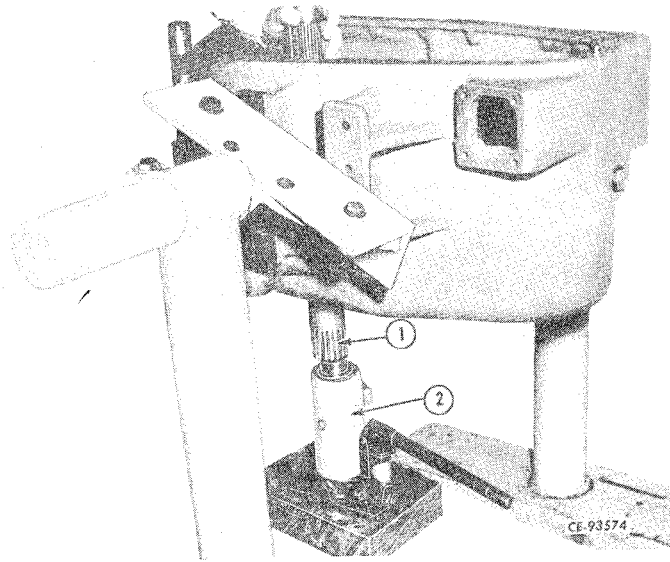

Figure 4-44
Place a jack (2, Fig. 4-44) under the countershaft (1) and raise until one leg of the stand is off the floor. Tap the transmission case with a mallet to free the countershaft bearing from the case.